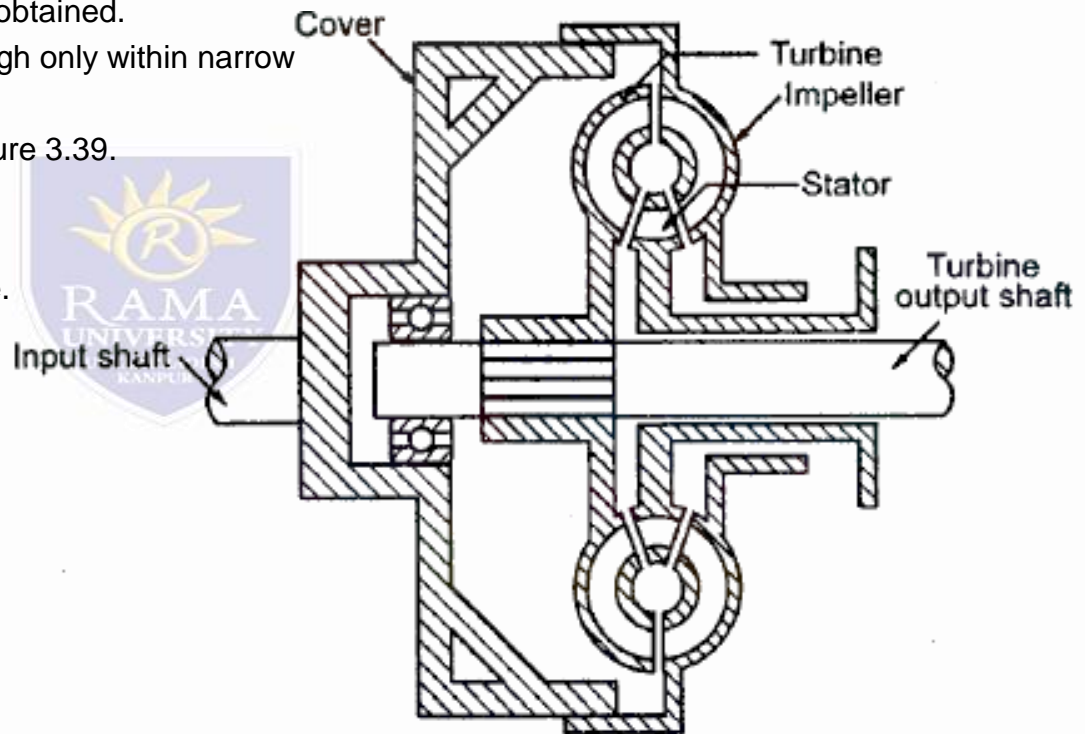

Figure 3.39 Torque converter
- A single stage torque converter is shown in Figure 3.39.